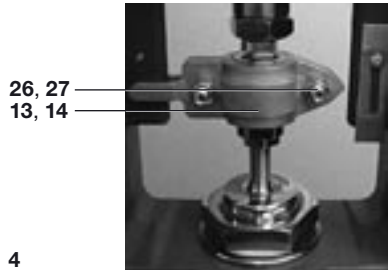

Fig. 4
- Apply just enough air pressure to open the valve fully (see Figure 4).